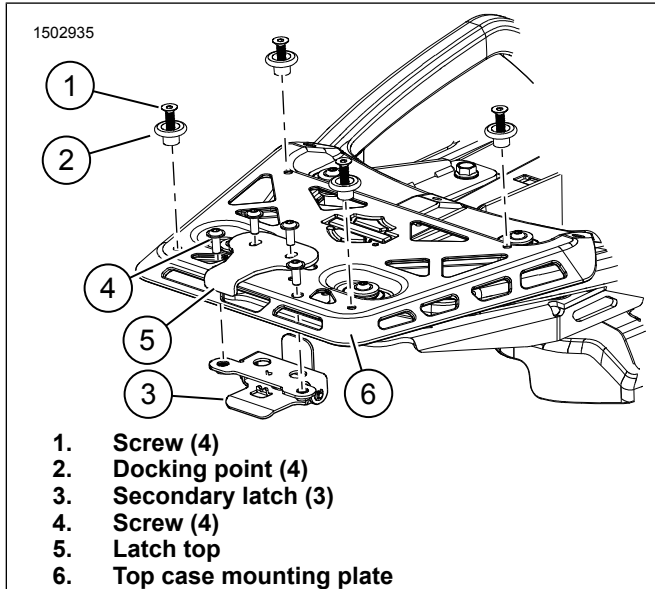

Figure 5. Docking Points
1. See Figure 5. Install
2. Install docking points (2) onto top case mounting plate with flat head screws (1). Tighten screws (1).